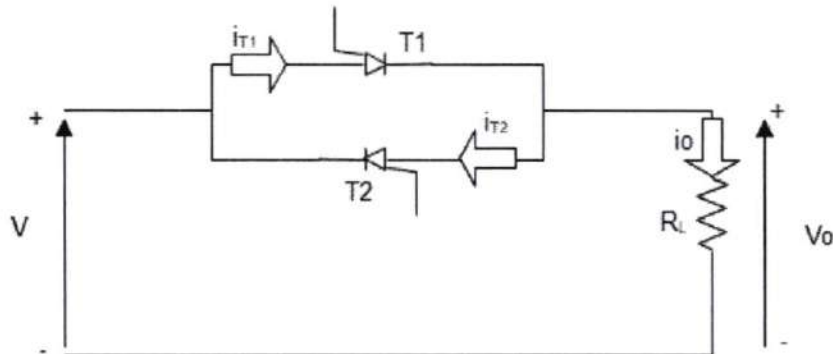

Figure 2. Single phase ac thyristor switch
- a. A single phase ac switch with configuration as shown in Figure 2 below is used between a 120V-50Hz and an inductive load. The load power is 15 kW at a power factor (pf) of 0.89 lagging. Determine (i) peak thyristor current, I_m (ii) average thyristor current, I_{av} (iii) rms thyristor current, I_{rms} (iv) Peak Inverse Voltage of thyristor (PIV) and (v) firing angle of thyristors. T_1 and T_2 . [1+1+1+1+1=5]